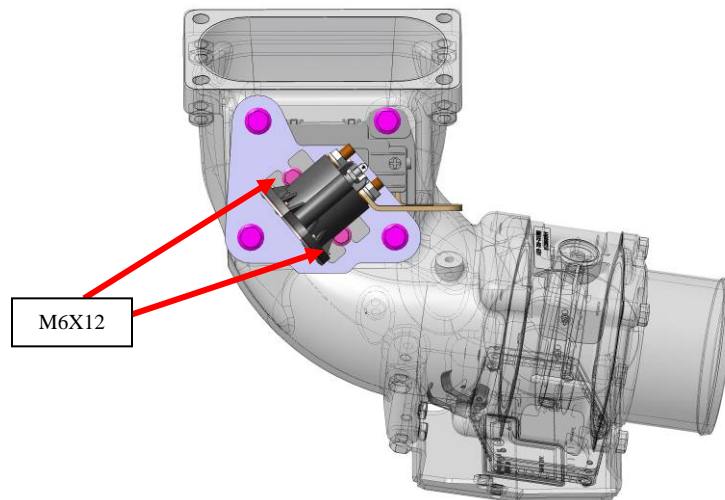

Figure 3 – Relay and Bracket Assembled to Air Intake Elbow
8. Mount the relay (P/N: A0045459205) to the relay bracket using supplied M6X12 bolts (P/N: N910105006002), as shown in Figure 3. .Torque fasteners to 15 N·m (11 lb·ft).